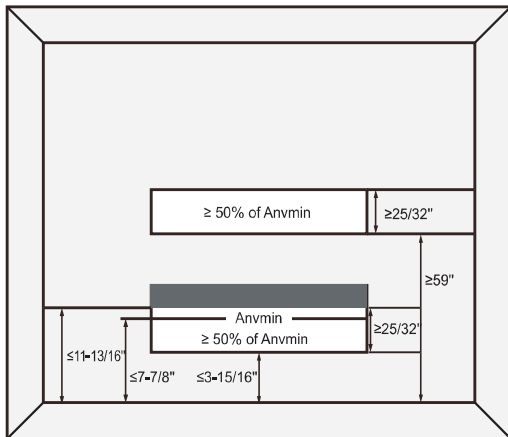

Figure 2.6 Opening conditions for connected rooms
- The area of the connected rooms, on the same floor, connected by permanent opening in the walls and/or doors between occupied spaces, including gaps between the wall and the floor, can be considered a single room when determining compliance to Amin, provided all of the following conditions are met as Figure 2.6.
- ① The opening shall not be less than Anvmin in Table 2.5.
- ② The area of any openings above 11-13/16 inches from the floor shall not be considered in determining compliance with Anvmin.
- ③ At least 50% of the opening area of Anvmin shall be below 7-7/8 inches from the floor.
- ④ The bottom of the opening is not more than 3-15/16 inches from the floor.
- ⑤ The opening is a permanent opening that cannot be closed.
- ⑥ For openings extending to the floor the height shall not be less than 25/32 inches above the surface of the floor covering.